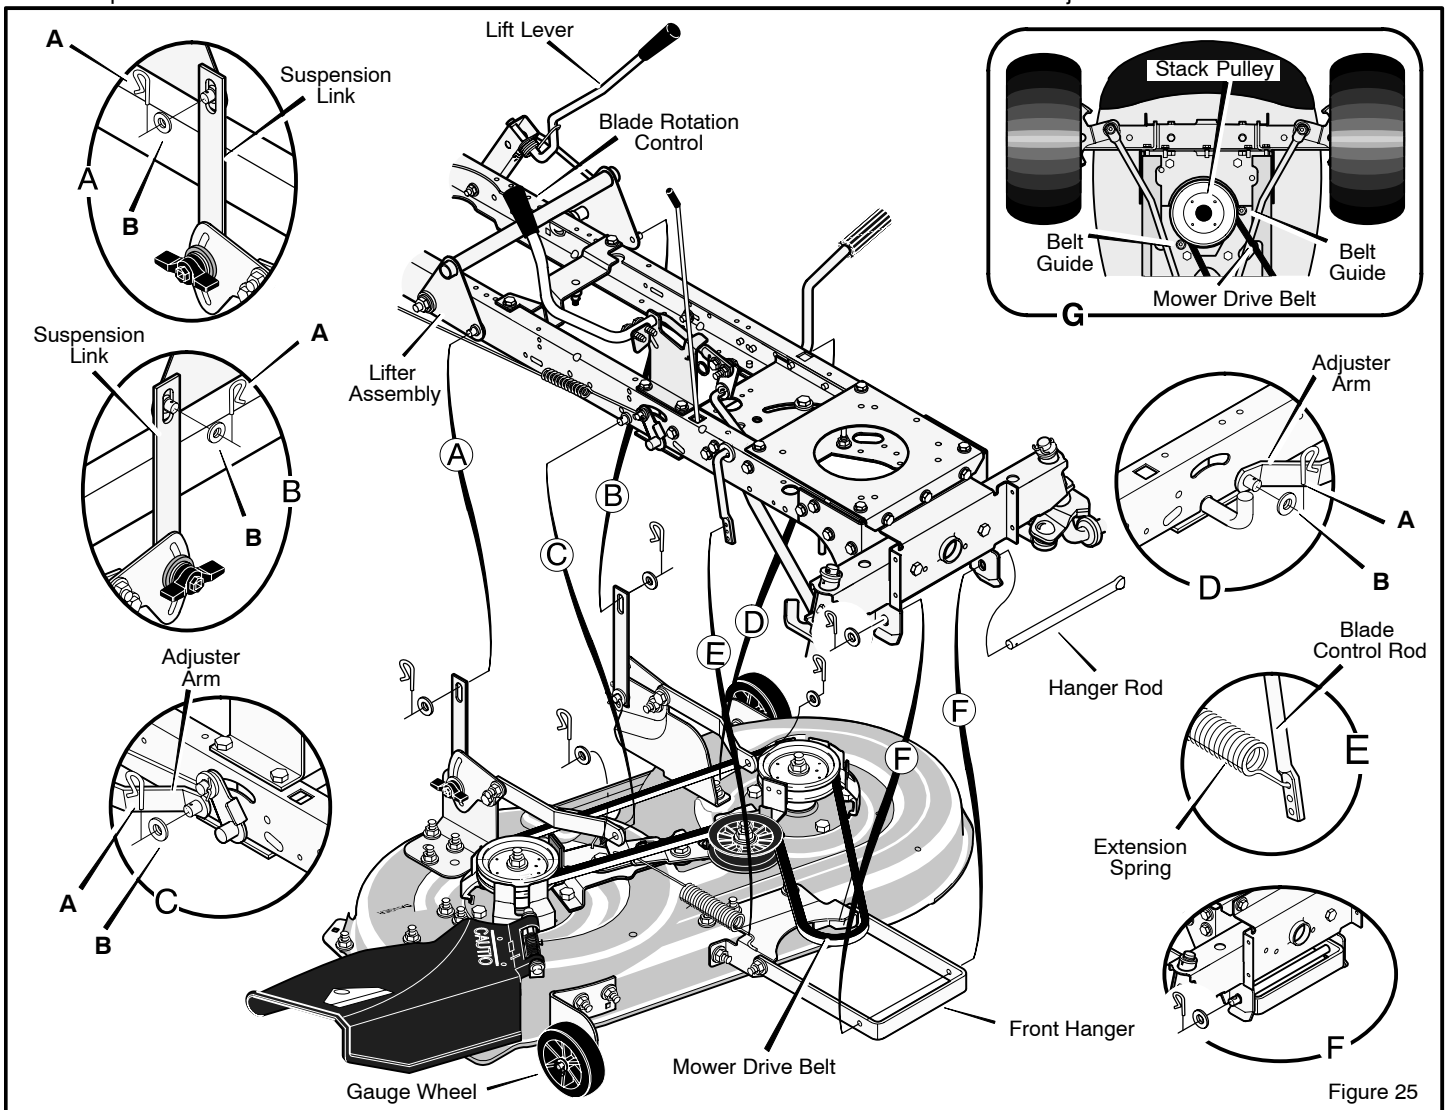

Figure 25
4. Remove the hair pins and the washers from the **adjuster arms** (Figure 25). See illustrations "C" and "D".